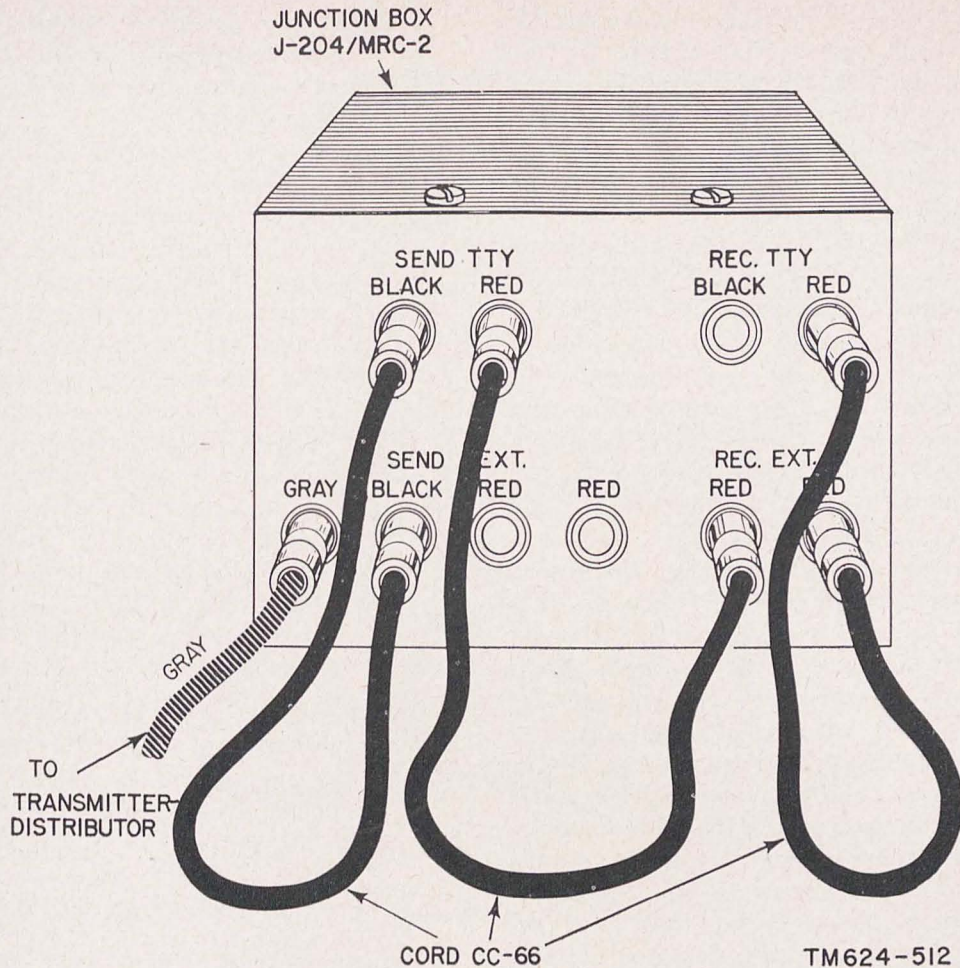

Figure 50. Receive on both teletypewriter, transmit on send teletypewriter, patching arrangement.
- (5) To receive on both teletypewriters and send from the send teletypewriter, make the following connections in place of those indicated in *a(1)(a)*, *(b)*, and *(c)* above. Refer to figure 50.